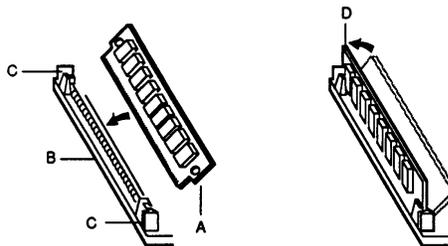

Figure A-13. Inserting the SIMMs
4. Refer to Figure A-13. Holding the SIMM only by the edges (A), align the SIMM with its socket (B). The contact edge should be inserted into the socket first. The memory chips should be on the left side of the SIMM. Press down firmly while maintaining the angle of insertion.